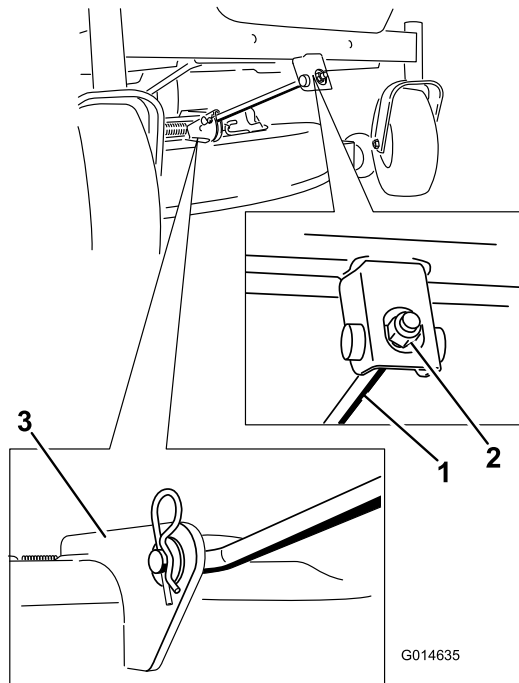

Figure 54
4. Remove the hairpin cotter from the front support rod, and remove the rod from the deck bracket (Figure 54). Carefully lower the front of the mower deck to the ground.
6. Attach the front support rod to the mower deck with the clevis pin and hairpin cotter (Figure 54).